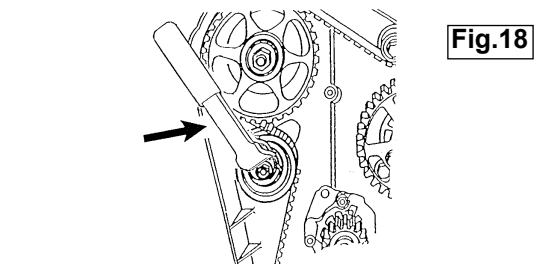
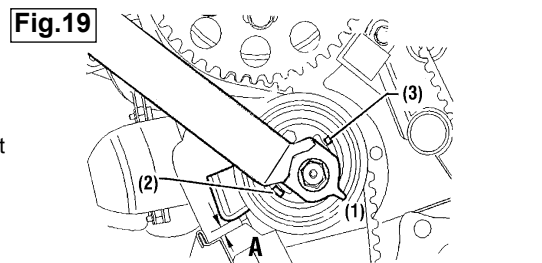

Fig.18
Fig.19
Locate **VS1245/02** Adjuster into the two holes in the tensioner eccentric (**Fig.18**), and turn it **clockwise** until pointer (1) comes to a stop at position (2) - (refer to **Fig.19**).
The **VS1245/04** Setting Tool provides 4mm, 7mm and 8mm pins for setting the gap on the tensioner at position **A**, (refer to **Fig.19**), as follows -
Insert the appropriate size pin from **VS1245/04** at position "A" (refer to **Fig.19**), and using **VS1245/02** Adjuster carefully allow the tensioner to slowly move **clockwise** to adjust the distance at position "A" to the pin diameter. Tighten tensioner nut.